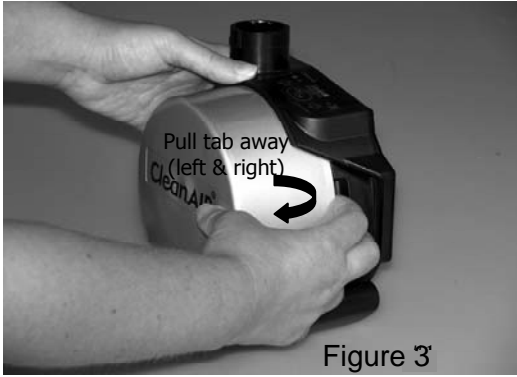

Figure 3
2. Remove the Filter Cap from the Blower (fig. 3).